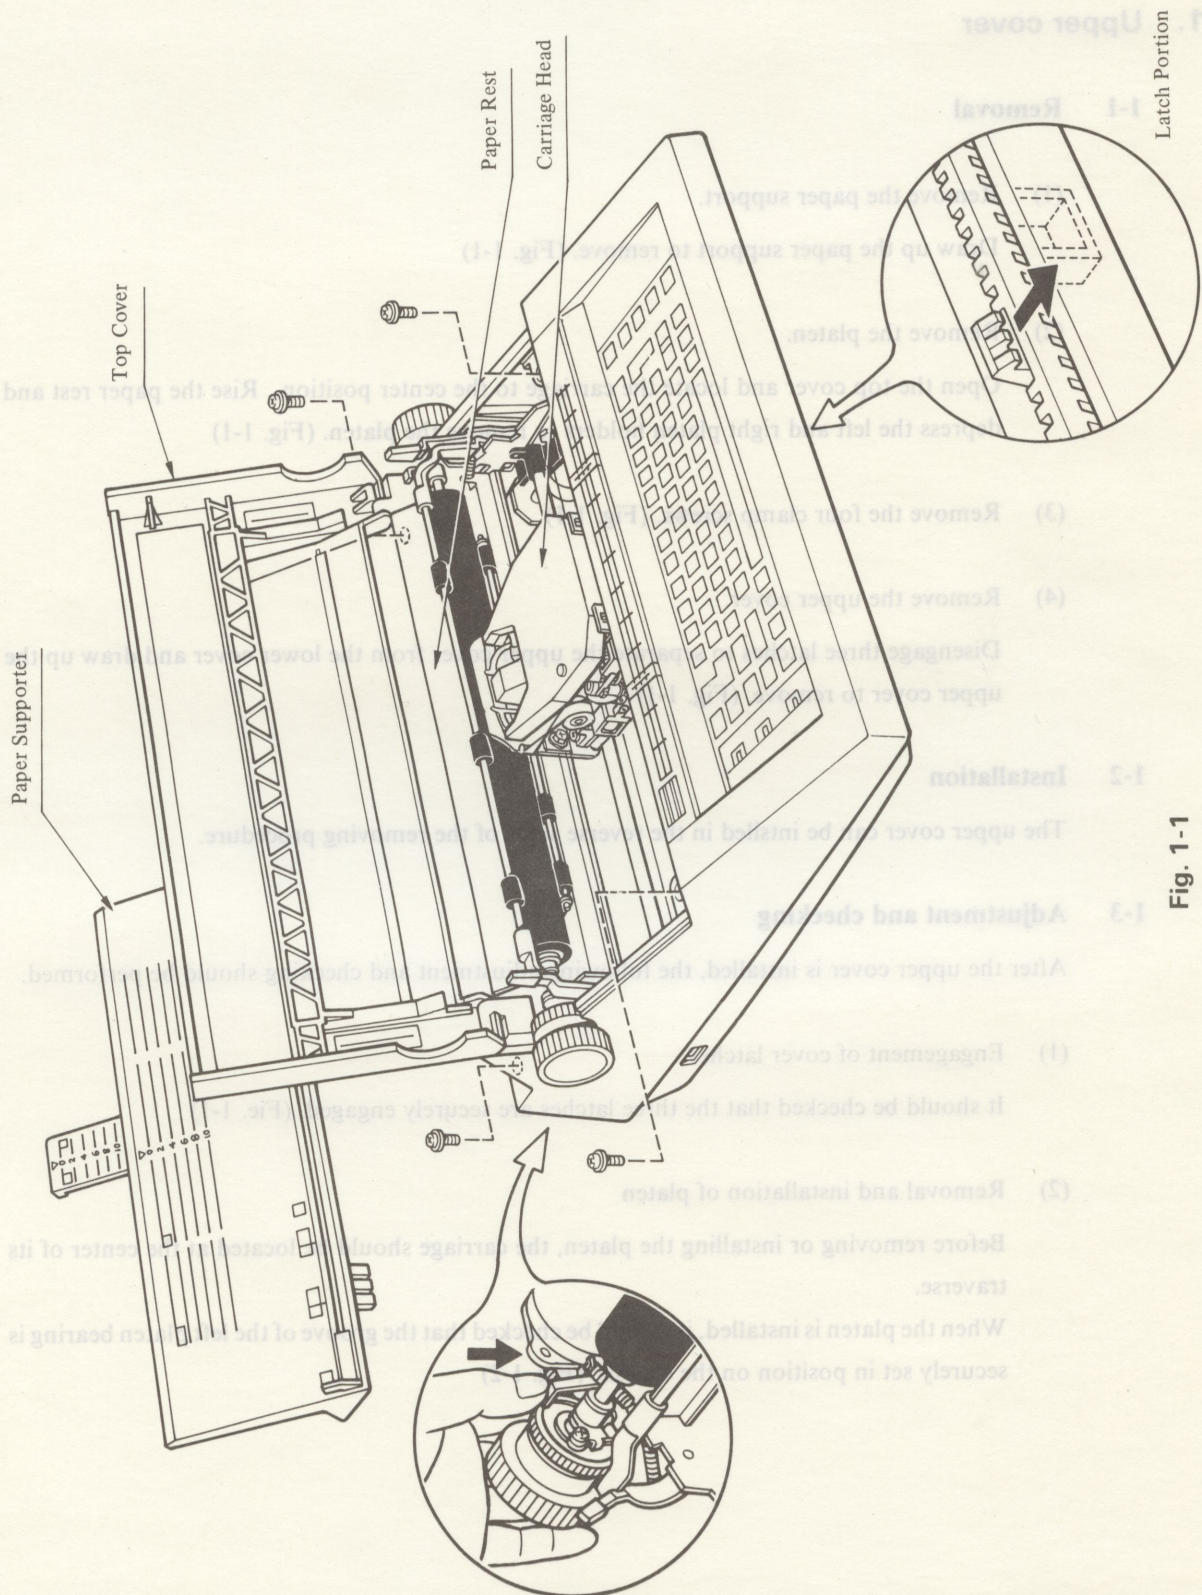

Fig. 1-1
Draw up the paper support to remove. (Fig. 1-1)
Open the top cover and locate the carriage to the center position. Rise the paper rest and depress the left and right platen holders to remove the platen. (Fig. 1-1)
- (3) Remove the four clamp screws. (Fig. 1-1)
- (4) Remove the upper cover.
Disengage three latches to separate the upper cover from the lower cover and draw up the upper cover to remove. (Fig. 1-1)
It should be checked that the three latches are securely engaged. (Fig. 1-1)